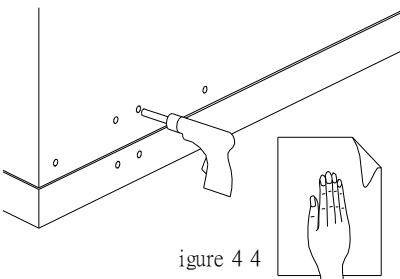

figure 4.4
6. The screw thread of the installation hole must have a, at least, 6-threading die screwing depth. The part which bears more pressure, such as the fixing board for supporting the DRO, must have a, at least, 8-threading die screwing depth. LS series linear scale is tightened with M4 screw, and LE with M5. After drilling holes on the installation surface, you have to smooth the granulated surface and clean the paint and the stains (Figure 4.4).